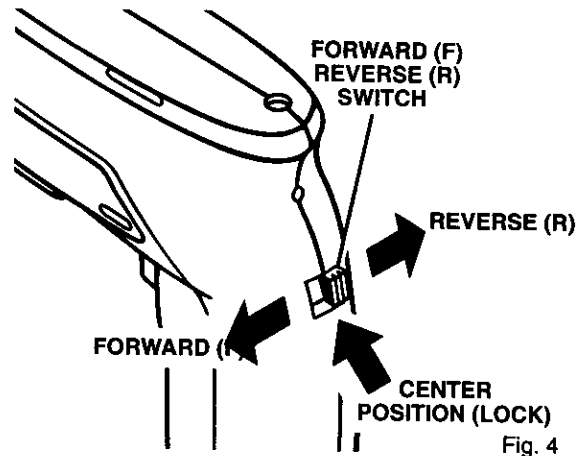

Fig. 4
See Figure 4.
- Lock switch trigger by placing the forward/reverse switch in center position. See Figure 4.